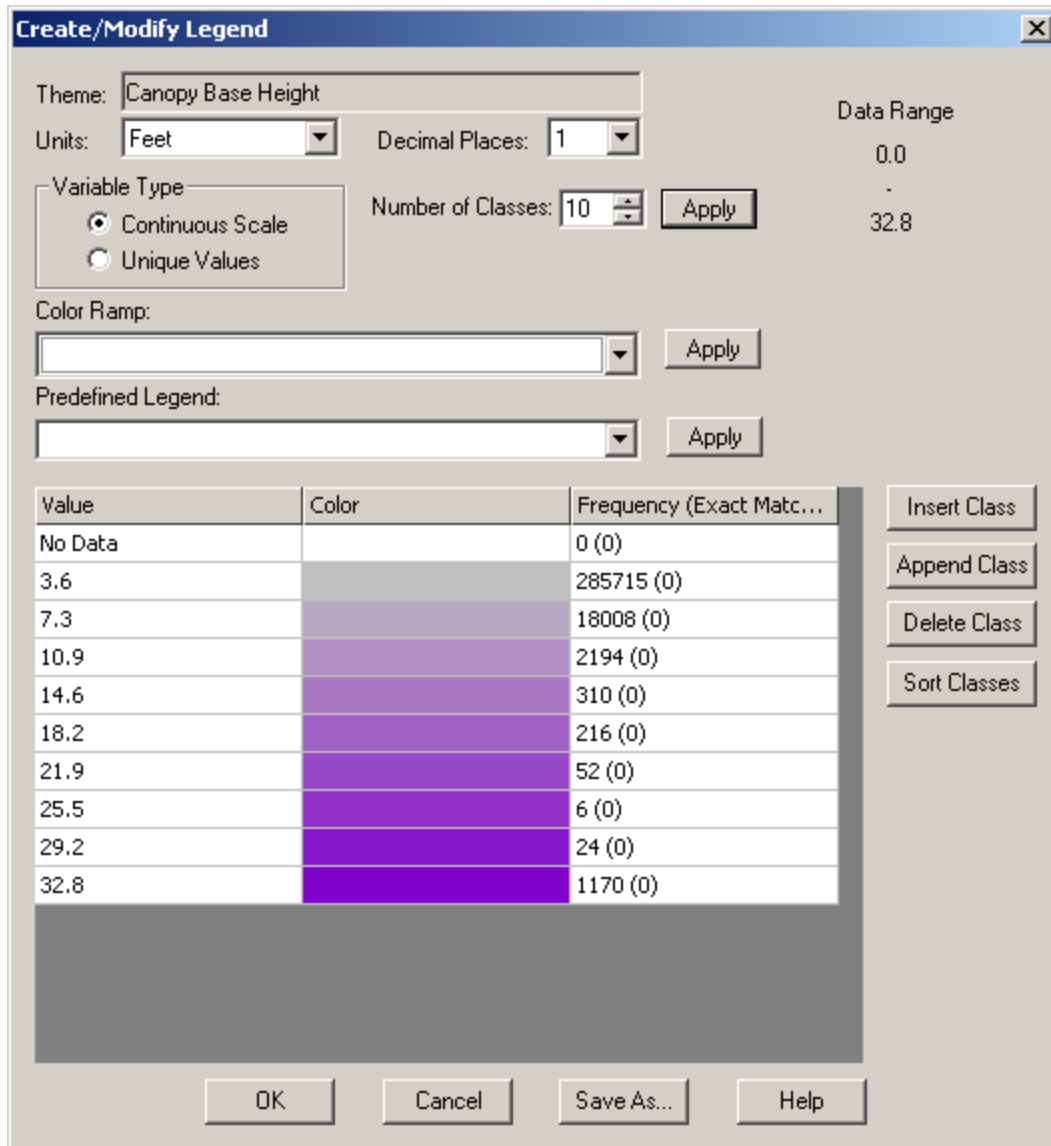

Figure 4-14—Changing the units and class number for canopy base height.
- 2) To change the units and number of classes of the canopy base height theme, right-click on the Canopy Base Height theme, and then select **Properties** from the menu. The **Create/Modify Legend** window will open (fig. 4-14).